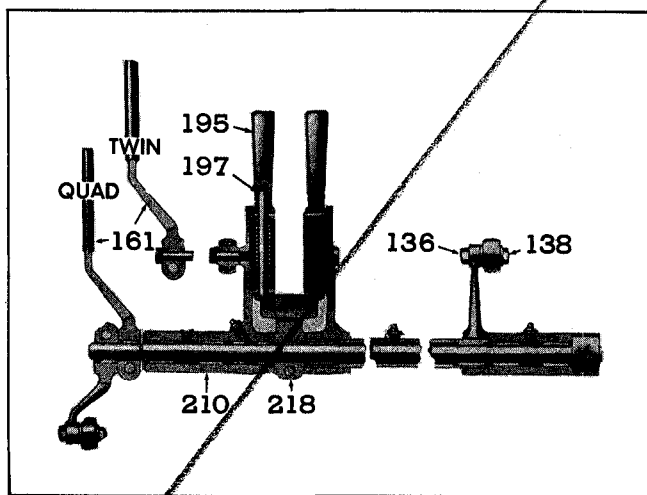
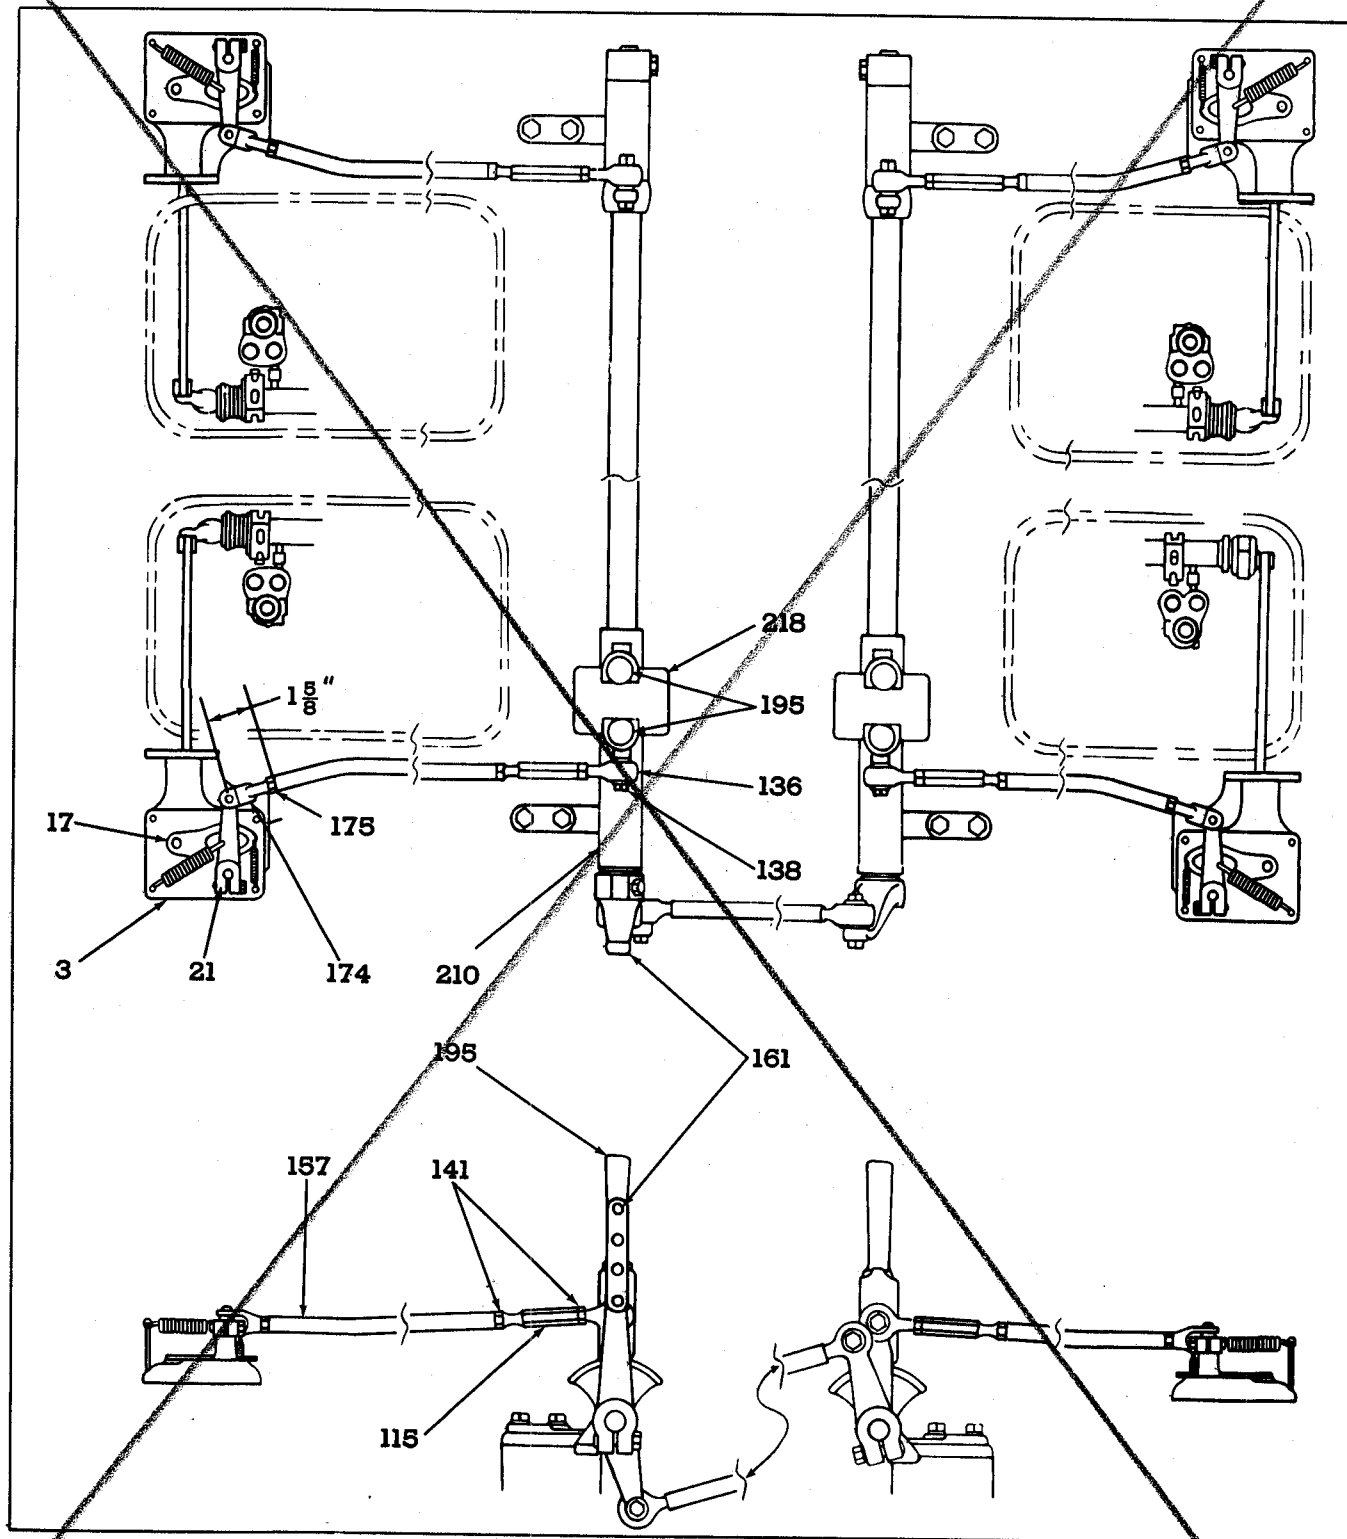
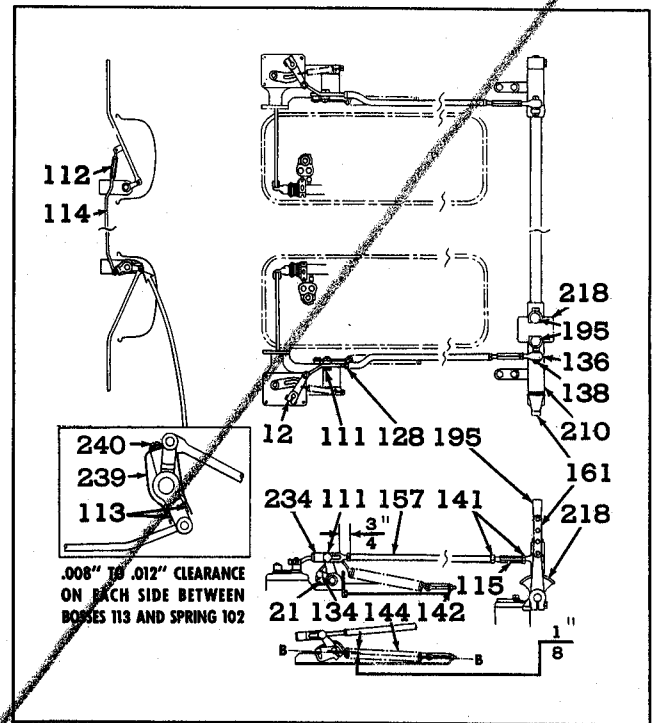
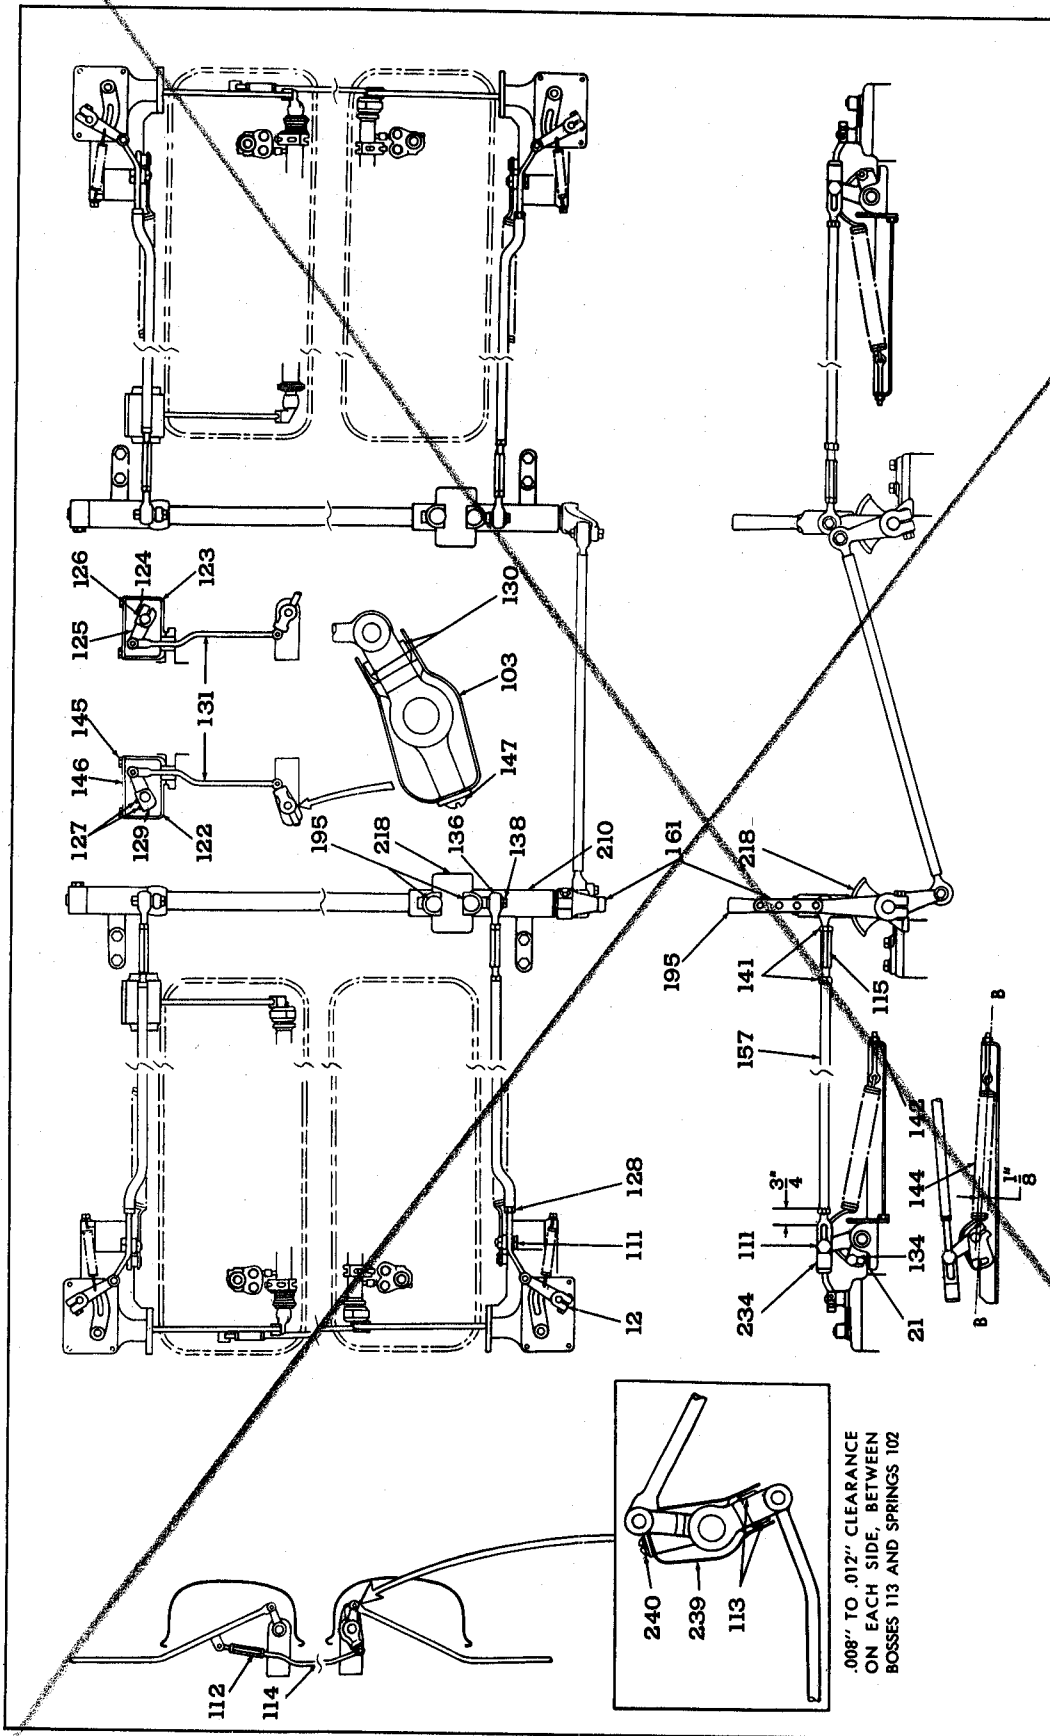

Fig. 18—Throttle Control Shaft Assembly—Twin and Quad Units.
Fig. 19—Diagram of Throttle Control Linkage for Quad Units With Limiting Speed Mechanical Governors.
Fig. 21—Diagram of Throttle Control Linkage for Twin Units With Variable Speed Mechanical Governors.
Fig. 22—Diagram of Throttle Control Linkage for Quad Units with Variable Speed Governors.
2. Make sure that the individual throttle control levers (195) are latched to their quadrant (218), by positioning pins (197), Fig. 18.
3. Move the master throttle control lever (161) to the FULL FUEL position.
4. Make sure each control lever (12) is in the FULL FUEL position. The pin of the lever (12) must be just touching the end of the slot in cam (17).
5. If the governor control levers are not in the FULL FUEL position, loosen the two turnbuckle nuts (141) and adjust turnbuckles (115) until all levers are in their FULL FUEL position, see Fig. 19 and 20.
6. Tighten the turnbuckle lock nuts (141) and check the position of lever (12). When tightening the lock nuts, be careful not to "cock" the end bearing (136).
7. Move the master control lever (161) to the IDLE position and start the engines.
The individual engine tune-up is very important in the adjustment of twin and quad engine units as the engines must be closely synchronized to enable each to carry its full share of the load. Therefore, disconnect the control rods (157) from control levers (21) and cross link equalizer spring (239) from cross link (114) (see Fig. 21). On quad units, loosen screw (147) Fig. 22, and remove the master control equalizer spring (103). Then with engines stopped and valve covers removed:
1. Check the link (234) on each engine. Be sure
2. Make sure that the individual throttle control levers (12) are latched to their quadrant (218), by positioning pins (197), Fig. 18.
4. Make sure each control lever (21), Fig. 22, is in the FULL FUEL position (all the way back).
5. If the governor control levers are not in the FULL FUEL position, loosen the two turnbuckle nuts (141) and adjust turnbuckles (115) until all levers are in their FULL FUEL position.
6. Tighten the turnbuckle lock nuts (141), and check the position of each governor lever. Levers must be all the way back. Be careful not to "cock" the end bearing (136).
- a. Set the governor booster spring pin (134) $\frac{1}{8}$ " below over-center line B-B, as shown in Figs. 21 and 22.
- d. Refer to Fig. 21 and loosen booster spring retaining nut on speed control lever (21). Loosen nut and lock nut on eyebolt at opposite end of spring (144).
- e. Move bolt up or down in slot of lever (21) to a position that will allow speed control lever to move from the FULL FUEL position to the IDLE position. Hold bolt and tighten spring retaining nut.
7. Connect each of the governor control rods (157) to lever (21).
8. Set the gap between the end of link (234) and governor control lever (21) at $\frac{1}{16}$ " to $\frac{1}{8}$ " by adjusting the lever (21) on its shaft. While setting the gap, the governor lever must be in the IDLE position, and the forward end of the slot in link (234) must be contacting the lever-to-link bolt (111).
9. Secure the master throttle control lever (161) in the FULL FUEL position, then replace equalizer spring (239) and secure with screw (240).
10. Loosen the lock nut (141) at turnbuckle (112).
Then adjust the master control equalizer between the front and rear engine pairs comprising the quad unit (see Fig. 22).